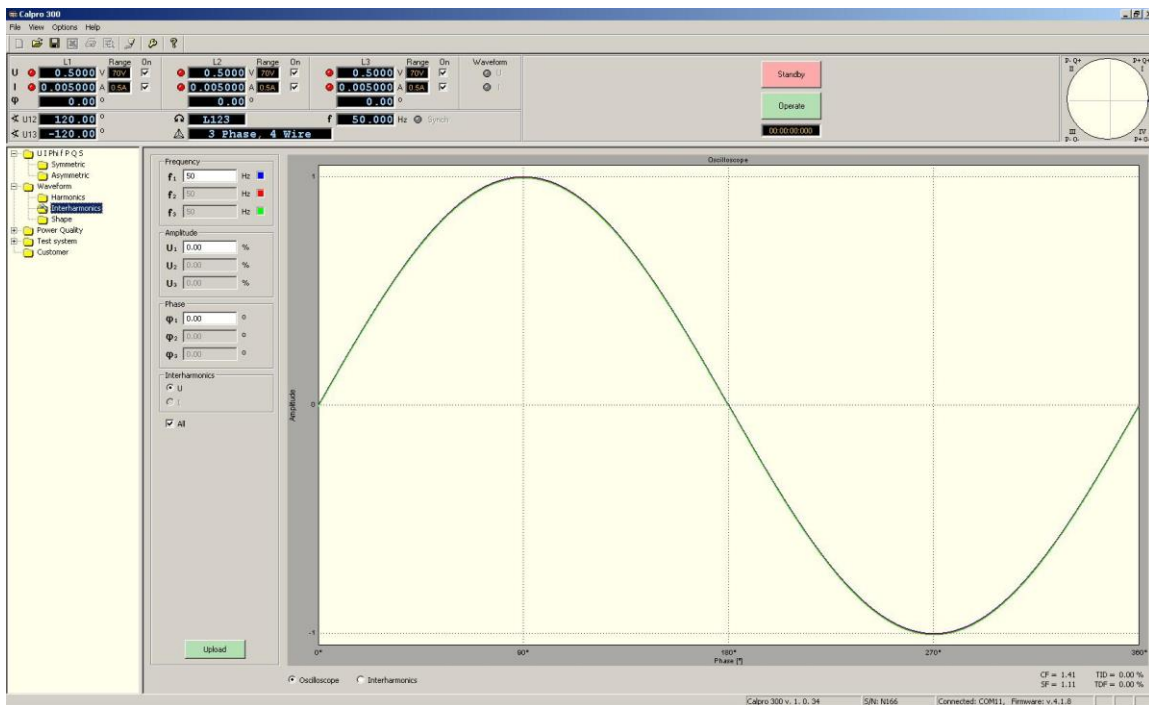

Fig.6. Interharmonics window after selecting function “Interharmonics”.
- select the function interharmonics, then opens the window as Fig.6.